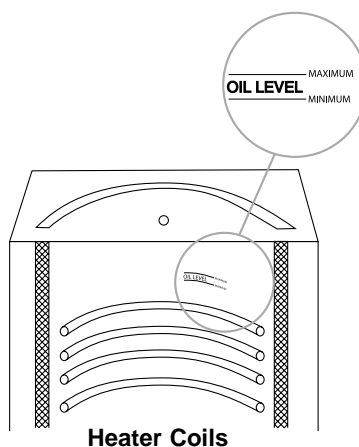

FIGURE 8
2. **Check Oil Level** to see that it is between the Maximum and Minimum lines in the cookpot (See Figure 8).